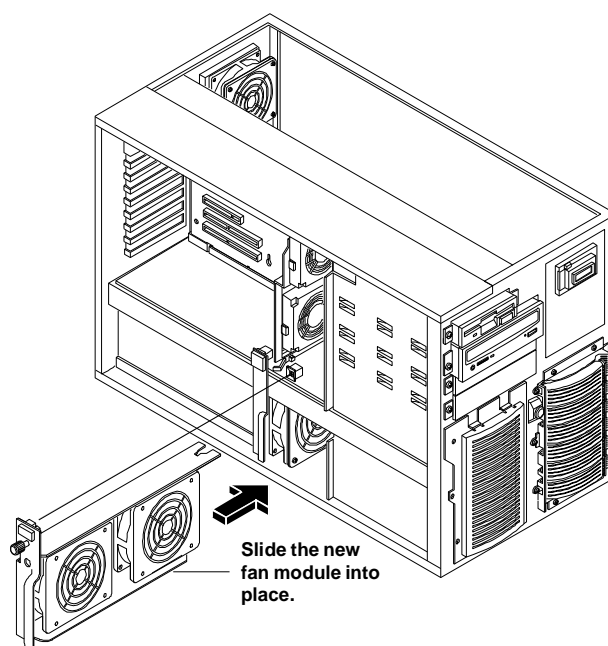

Figure 3-1. Installing the Fan Module
3. Fasten the fan module in place and secure it with its thumbscrew. See Figure 3-1.